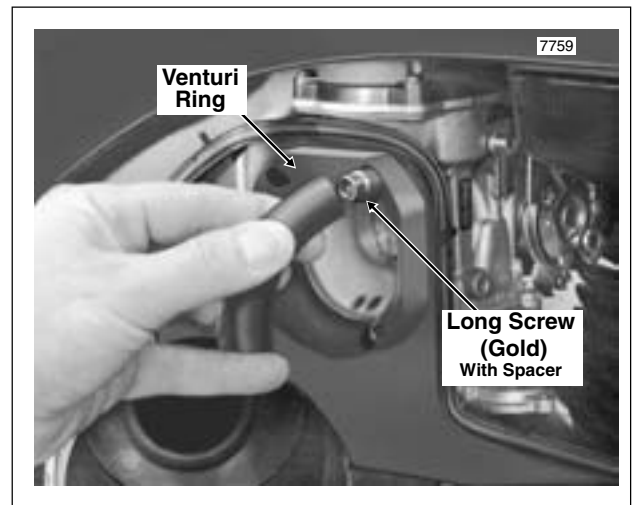

Figure 1-37. Fix Hose End Onto Allen Head Screw
7. Squeeze wings on spring clamp with pliers and push free end of clean air inlet hose over head of gold screw (and spacer) to fix position. See Figure 1-37.